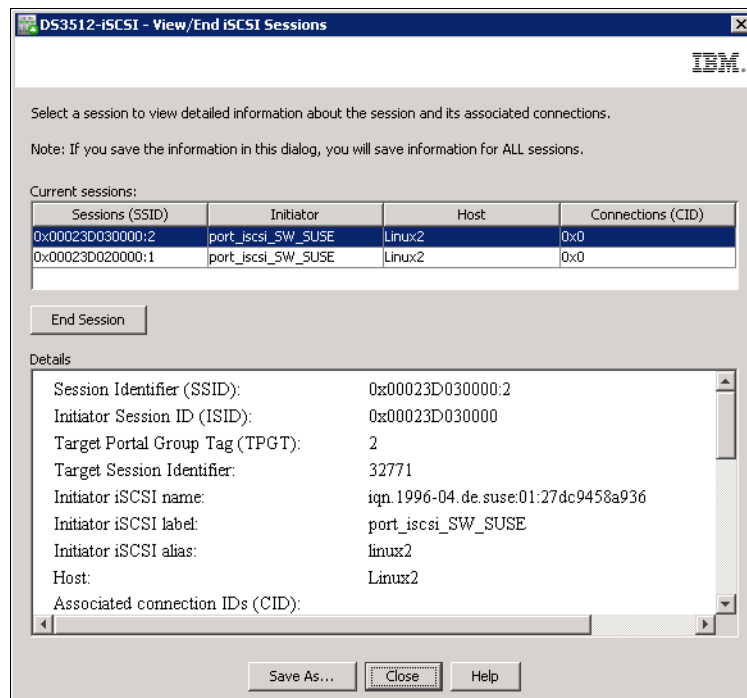

Figure 13-13 View/End iSCSI Sessions
1. Select **Storage Subsystem** → **iSCSI** → **End iSCSI Sessions** in Subsystem Management pull-down menu, and a window as in Figure 13-13 on page 322 appears. In the top pane you can see all the current sessions.
- Example 13-1 on page 323 shows the complete session information for the selected initiator in Figure 13-13. This output can help verify that the host setup was done correctly.